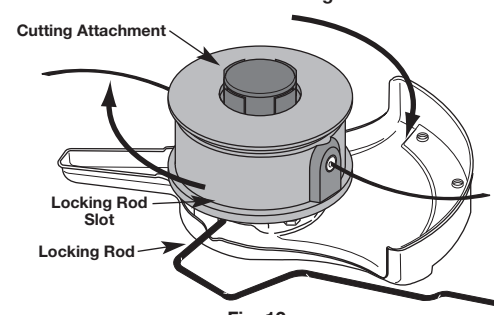

Fig. 12
3. While holding the locking rod, remove the cutting attachment by turning it clockwise off of the output shaft (Fig. 12). Store the cutting attachment for future use.